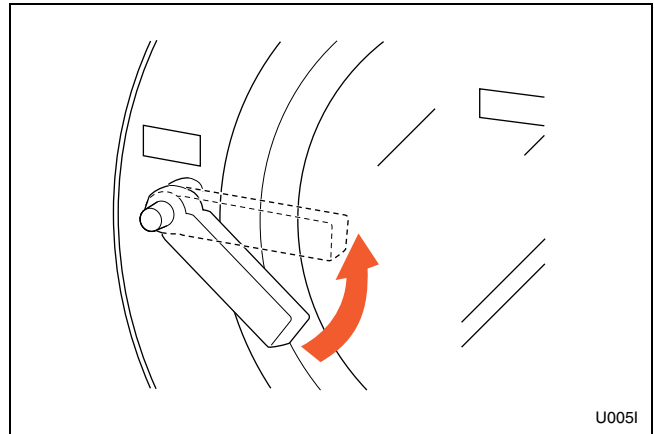

Figure 33
4. Close door and turn handle counterclockwise until button pops out. Refer to *Figure 33*.